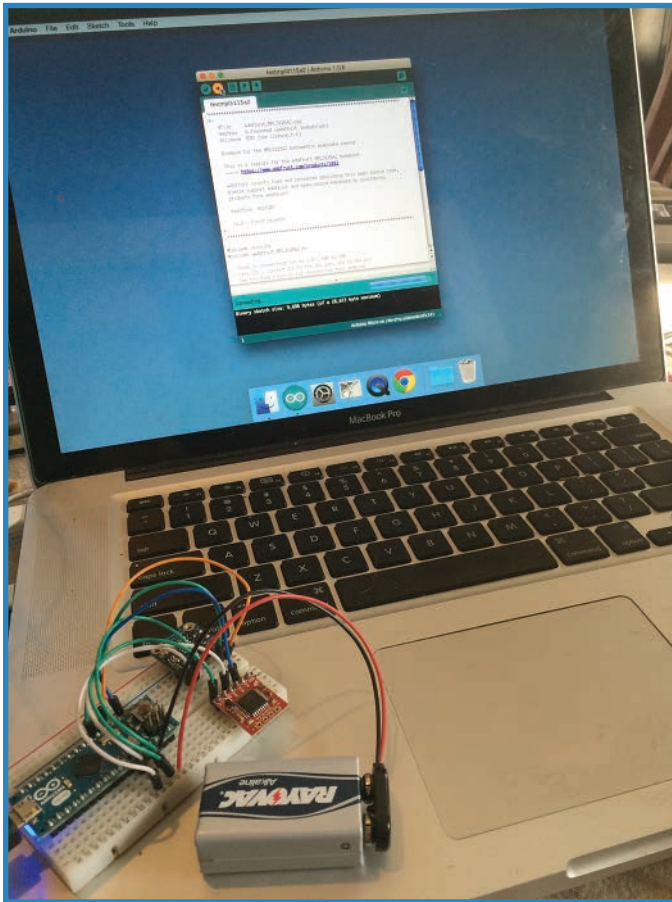

FIGURE 5.18 Upload the sketch to the Arduino.
6. Load the Arduino sketch from Examples and upload it to the Arduino, as shown in Figure 5.18. I'll describe this step more in the following section, "Programming the Payload."